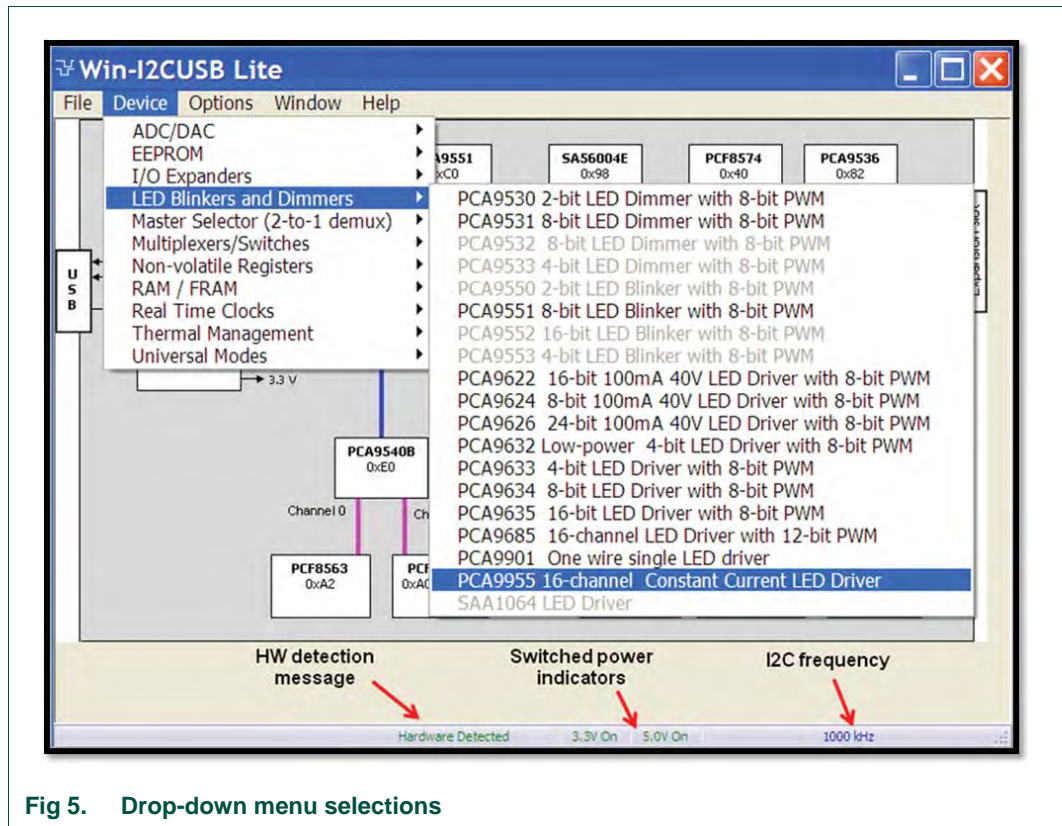

Fig 5. Drop-down menu selections
Connect the hardware as described in Section 4. The PCA9955 demo board address is set to 0xC0 on SW1 as $A[0:3] = SW1[1:4] = 0000$ (0 → ON, 1 → OFF). When you have correctly installed the software and the demonstration board hardware is connected and recognized by the computer, start the Win-I2CUSB Lite software. As shown in Figure 5, when the demonstration board hardware is correctly connected to the USB port and the computer recognizes it, the message 'Hardware Detected' is displayed on the bottom of the window.
- From the 'Device' drop-down menus, select 'LED Blinkers and Dimmers', and from the subsequent drop-down menu select 'PCA9955 16-channel Constant Current LED Driver' as shown in Figure 5.